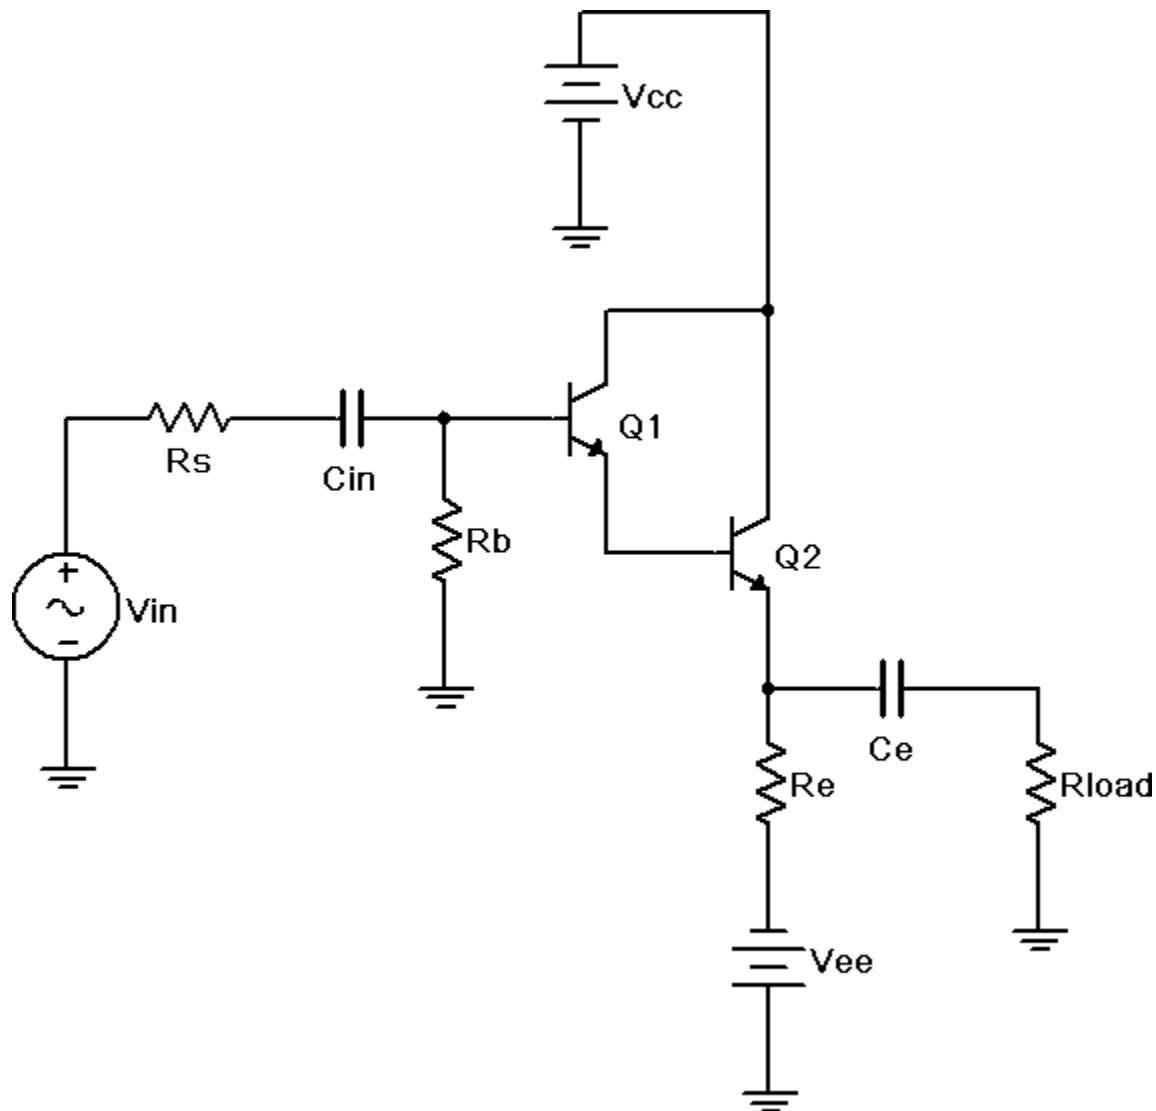

Figure 1
1. Consider the circuit of Figure 1 using  $V_{cc} = 5$  volts,  $V_{ee} = -12$  volts,  $R_s = 22\text{ k}\Omega$ ,  $R_b = 470\text{ k}\Omega$ ,  $R_e = 1\text{ k}\Omega$ ,  $R_{load} = 220\text{ }\Omega$ ,  $C_{in} = 10\text{ }\mu\text{F}$  and  $C_e = 470\text{ }\mu\text{F}$ . Using the approximation of a negligible DC base voltage, determine the DC collector current and  $r'_e$ , and record these in Table 1. Using the  $r'_e$ , calculate the expected  $Z_{in}$ ,  $Z_{in}(\text{base})$ ,  $Z_{out}$  and  $A_v$ . Record these in Table 2. If a transistor curve tracer or beta checker is not available to get an approximate value of beta for the transistors, estimate the pair at 10,000.
2. Build the circuit of Figure 1 using  $V_{cc} = 5$  volts,  $V_{ee} = -12$  volts,  $R_s = 22\text{ k}\Omega$ ,  $R_b = 470\text{ k}\Omega$ ,  $R_e = 1\text{ k}\Omega$ ,  $R_{load} = 220\text{ }\Omega$ ,  $C_{in} = 10\text{ }\mu\text{F}$  and  $C_e = 470\text{ }\mu\text{F}$ . Disconnect the signal source and check the DC transistor voltages to ensure that the circuit is biased correctly. (Note: The base should be close to zero while the emitter will be two  $V_{BE}$  drops less, or about  $-1.4\text{ VDC}$ .)